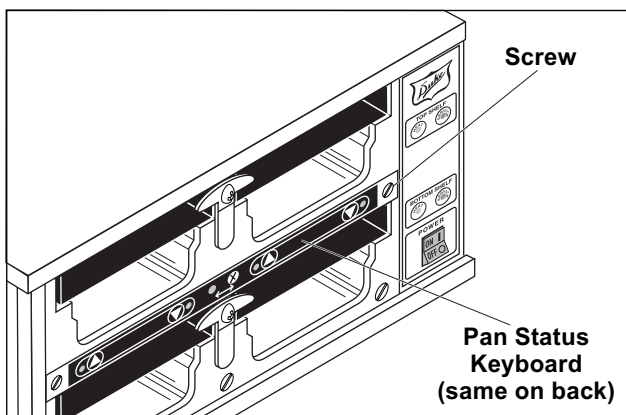

Figure 18. Pan Status Keyboard
The Pan Status Keyboards, Figure 18, are located on both the front and the back of the Warmer. Both keyboards are removed in the same manner.
3. Remove the screws, Figure 18, securing the Pan Status Keyboard that is to be replaced.